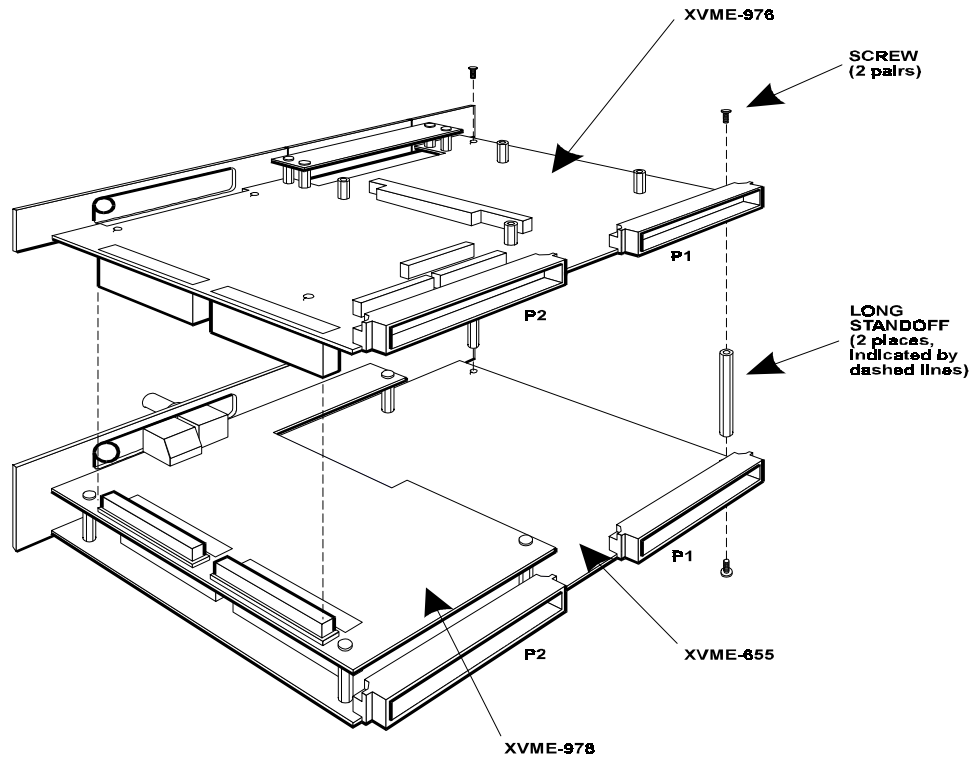

Figure 1-2. Installing XVME-976 onto XVME-978
8. Add standoffs (2) and standoff screws (2 pairs) as illustrated in Figure 1-2.